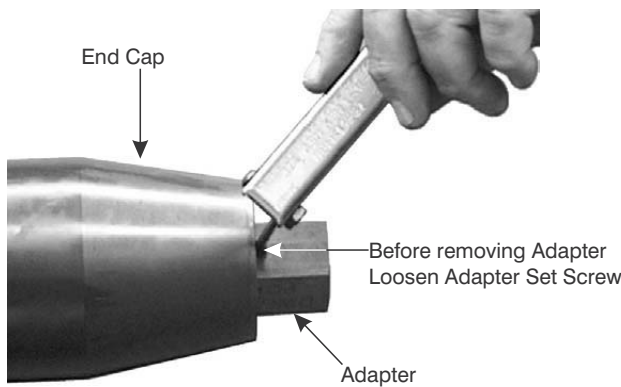

Figure 8-10. End Cap In Vice with Set Screw Accessible
1. Place the End Cap (9) in a vice or saddle clamp so the Cone Point Set Screw (12) is accessible. Secure the End Cap (9) tight enough to hold it in place while working. See Figure 8-10.
2. Remove the Cone Point Set Screw (12) as shown in Figure 8-10.